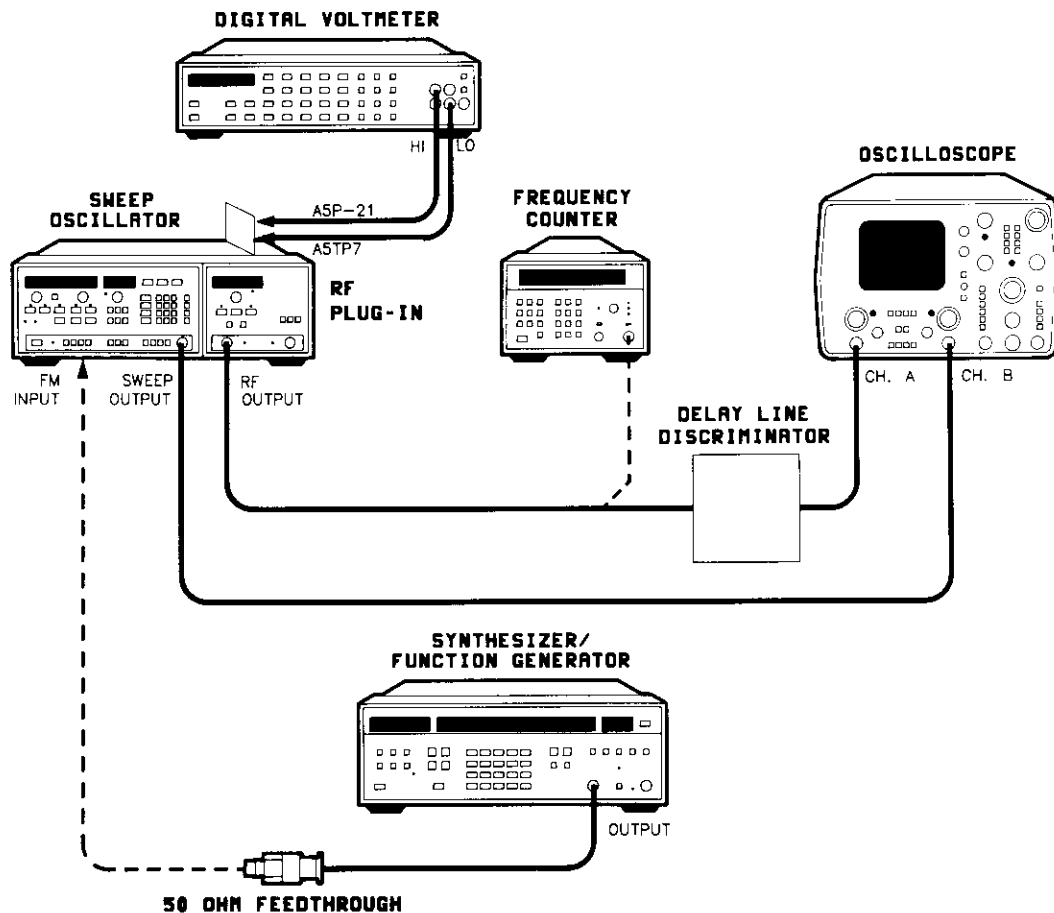

Figure 5-50. FM Adjustment Test Setup
1. The equipment in Figure 5-50 will be configured in the following procedure. In the interim, allow 30 minutes for warm-up for each instrument.
9. Connect the equipment as shown in Figure 5-50 with the delay line discriminator connected to the RF output and the function generator connected to the rear panel FM INPUT connector.